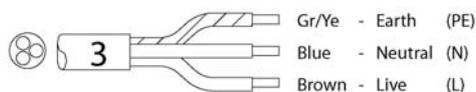

Fig 12
- (fig. 12) 1 N~ 230V (3-core cable).